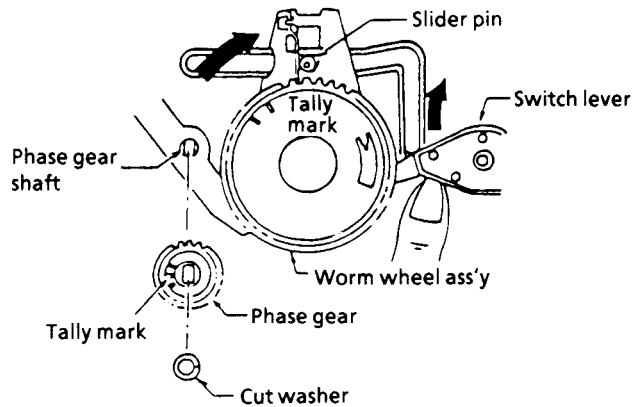

Figure 1-7.
5. Place the slider pin just above the worm wheel assembly (Figure 1-7). (The retainer of the slider is locked at two positions. So unlock it as in the Figure 1-8.)
6. Pull out the worm wheel assembly toward you pressing the switch lever upward. (Figure 1-7)